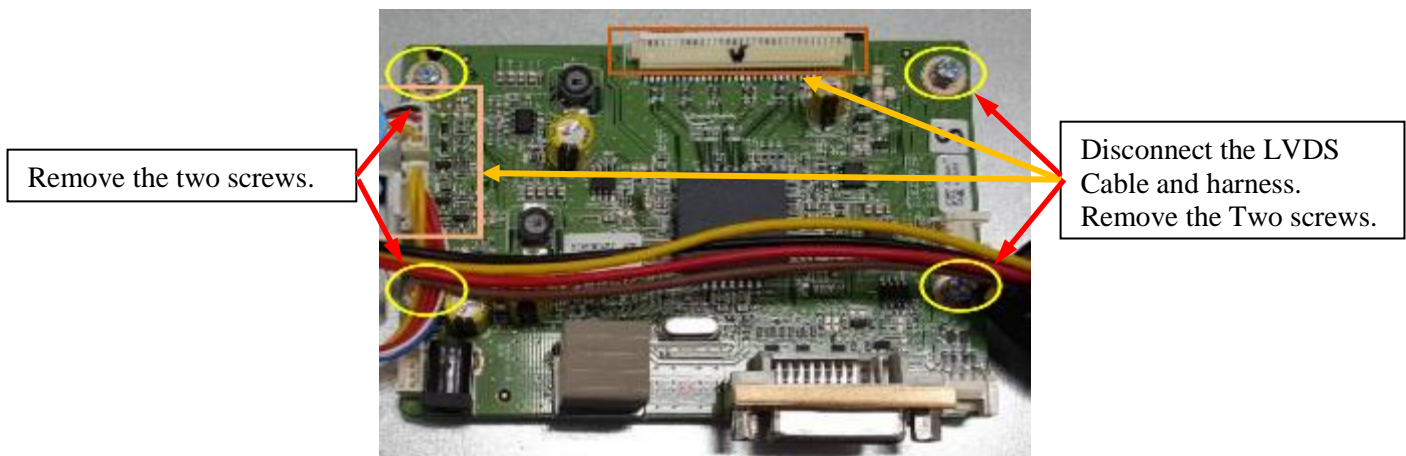

Figure 5.
- 2) Locate the A/D board as shown in Figure 5.